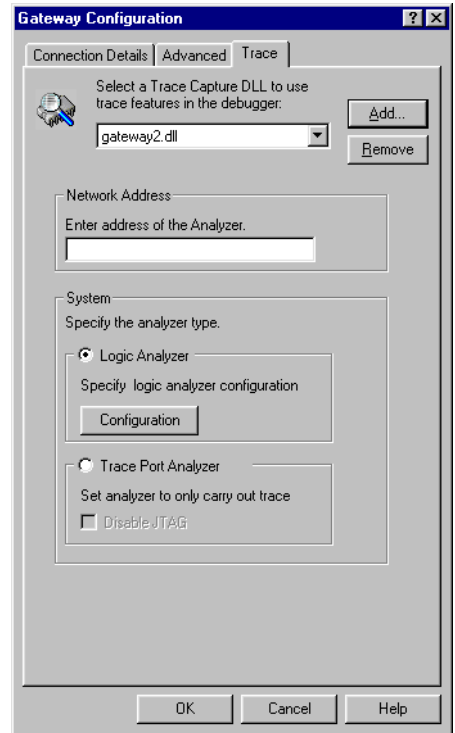

Figure 2-12 The Gateway2 controls within the Trace tab
5. Selecting Gateway2.dll changes the Gateway Configuration dialog as shown in Figure 2-12 on page 2-15.